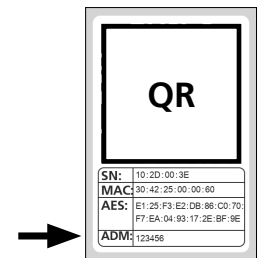

Fig. 9
**! Note:** The randomly generated administrator code can be found on the enclosed QR code sticker under "ADM" (Fig. 9). The administrator code can be changed at any time at a later date. Refer to the master operating instructions on our website for an explanation on this subject (see link on the title page).